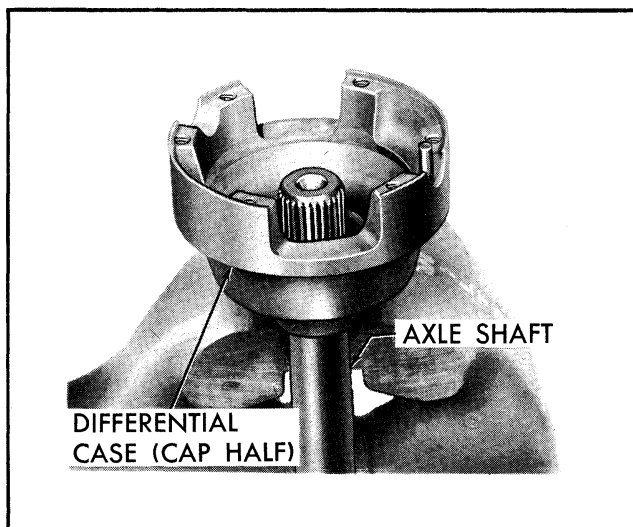

Fig. 4-49 Axle Shaft and Cap Half of Case in Vice
1. Clamp one axle shaft in a vise allowing three inches to extend above vise jaws. Then place the cap side of differential case over extended axle shaft with interior of case facing up. Fig. 4-49.